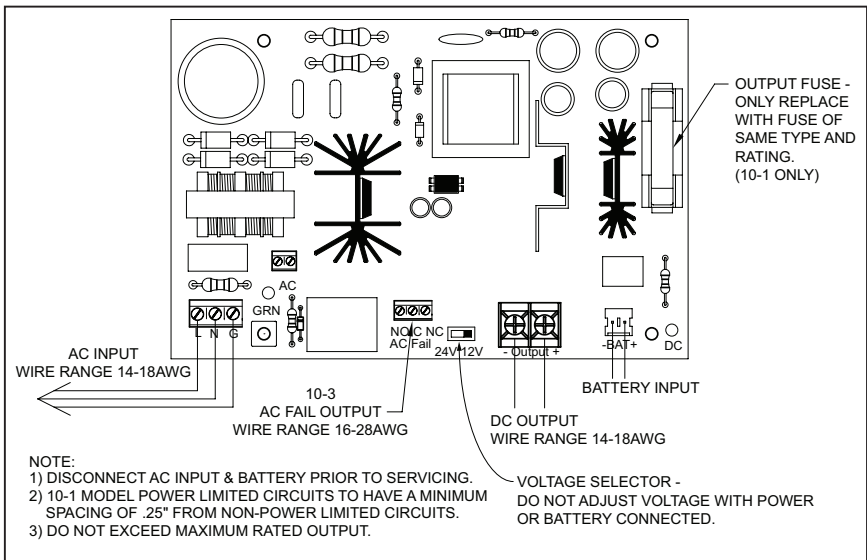

Fig. 1 - Power Supply Circuit Board
2. Route AC power through appropriate knockout and connect to the AC input terminals as marked (See Fig. 1). Use ground feature with 8-32 ground screw provided.
3. Run wiring for devices to be powered through panel knockouts as required and connect to DC output terminals (See Fig. 1). Minimum 22 AWG and maximum distance of 6170ft for field wiring. Use listed conduit or bushings for all knock-outs. Accessory boards mounted in the enclosure require 13mm high non-conductive stand offs.
4. Set DC output voltage selector switch to desired voltage prior to connecting battery and energizing AC input voltage (See Fig. 1). **Do not adjust voltage with power or battery connected.**
6. Connect backup battery(s) to battery leads if required using the supplied cables that are suitable to the installation. Ensure correct polarity (See Fig. 1).